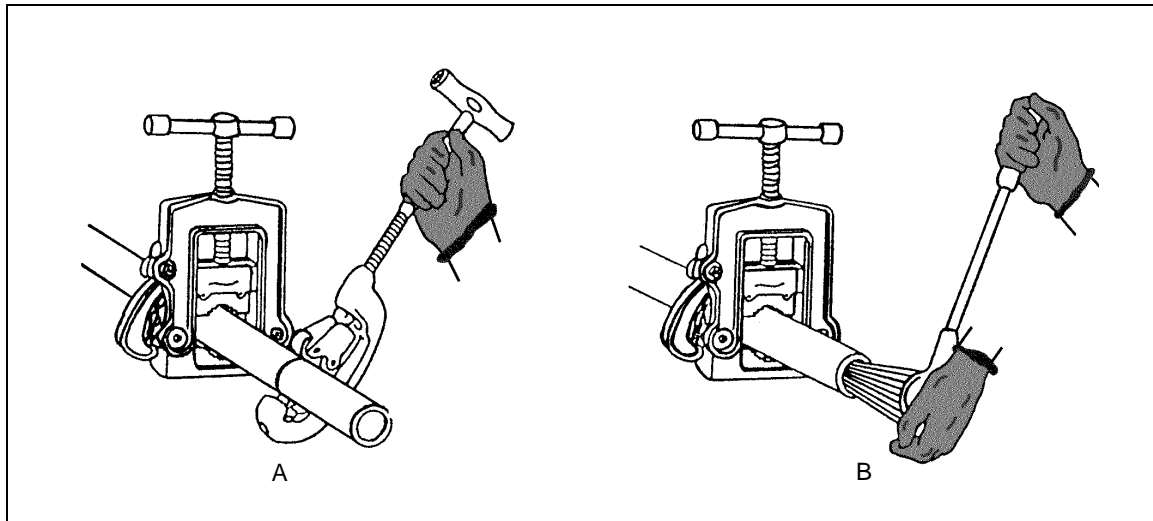

Figure 6-27. Cutting and Reaming Steel Pipe
6-57. Steel pipe is cut and reamed using a vise, pipe cutter, and reamer (*Figure 6-26*). To avoid pipe waste, use *Figure 6-27, page 24*, and the following steps:
- Step 4.** Place the cutter around the pipe with the cutting wheel exactly on the mark. The rollers will ensure a straight cut (*Figure 6-27, A*). If using a three-wheel cutter, place the cutting wheel of the movable jaw on the mark; ensure that all three wheels are at right angles to the centerline of the pipe.
- Step 8.** Push the reamer into the pipe. Turn the reamer clockwise in short, even strokes, while keeping steady pressure against the pipe (see *Figure 6-27, B*) until the inside burrs are removed.